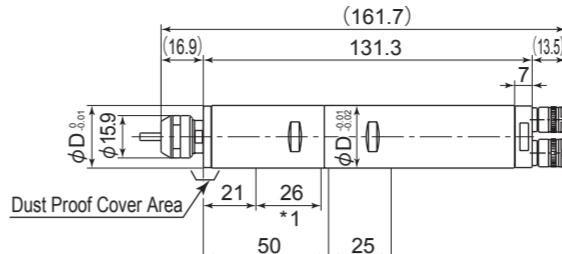
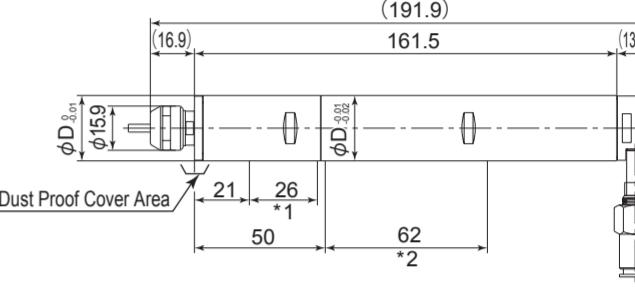

Fig. 1
Fig. 6
① When mounting a Air Motor Spindle, refer to the Clamping Area etched on the Air Motor Spindle. These Air Motor Spindle have 2 Clamping Area refer to "3 - 2 Outside View (Fig. 1 - Fig. 6).